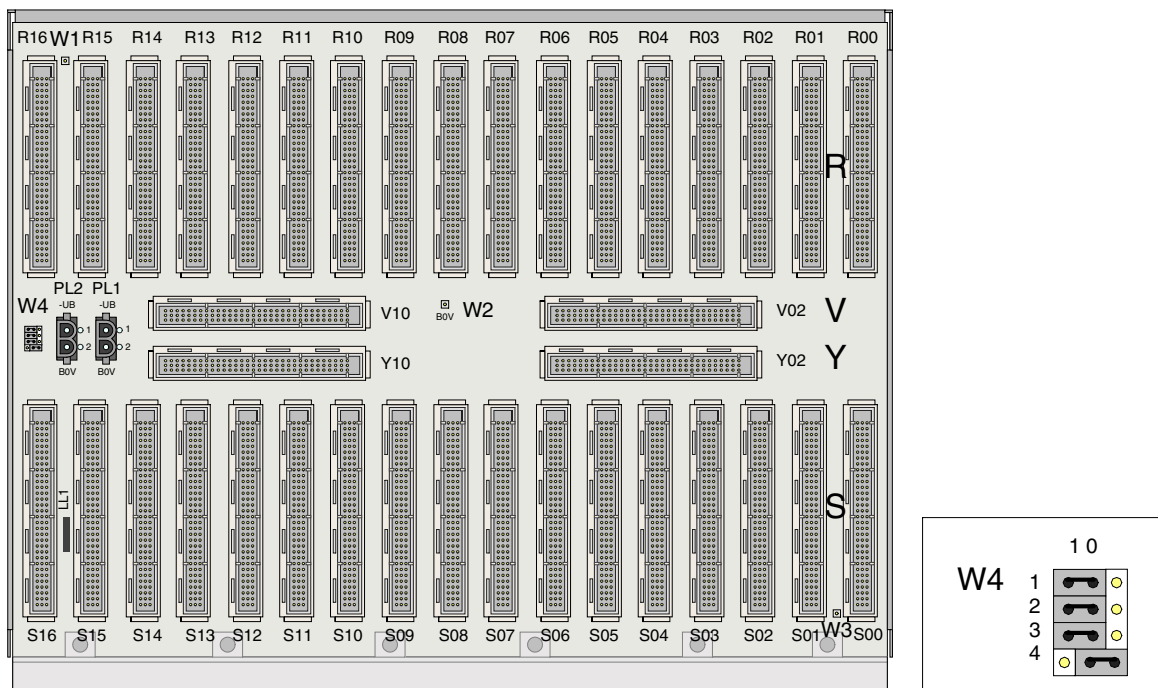

Figure 1. Jumper blocks of the ET4C-B cartridge
- Figure 1. Jumper blocks of the ET4C-B cartridge **13**